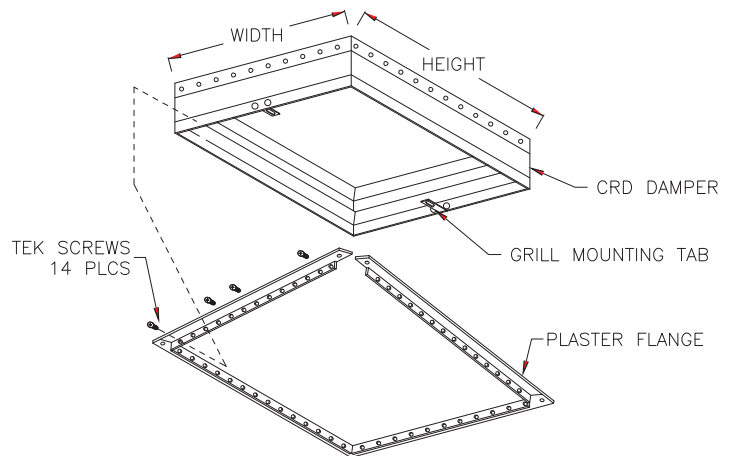

Figure 1: CRD damper with plaster flange
1. Unfold the plaster flange assembly that is supplied. Wrap the assembly around the damper in the orientation shown in **Figure 1**. Connect the open ends of the flange together.